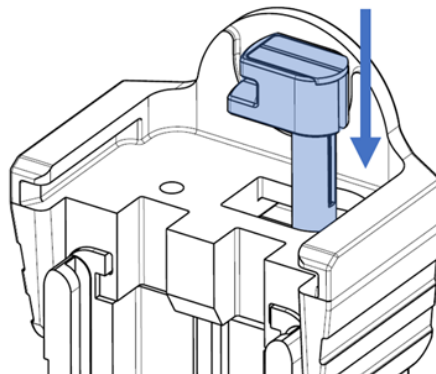

Figure 30: Correct RDC Coil assembly direction.
6. Once the RISCpro Extractor plunger Assembly is in the Extractor housing, insert the RCD Coil into the extractor housing (Figure 30).